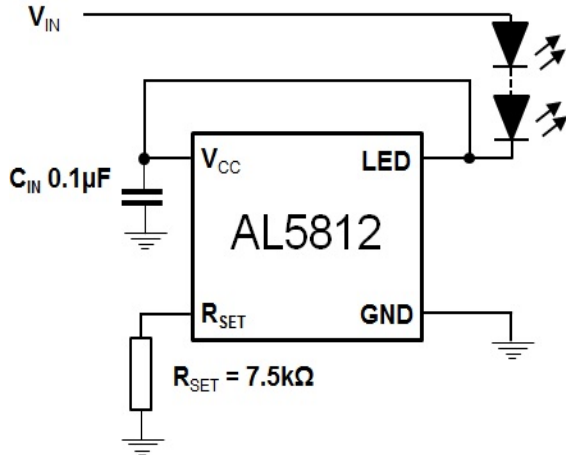
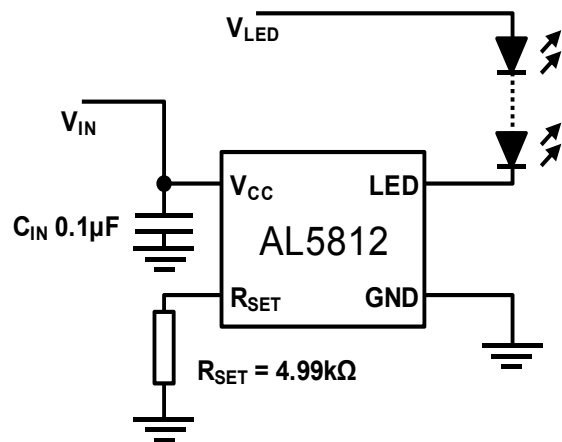
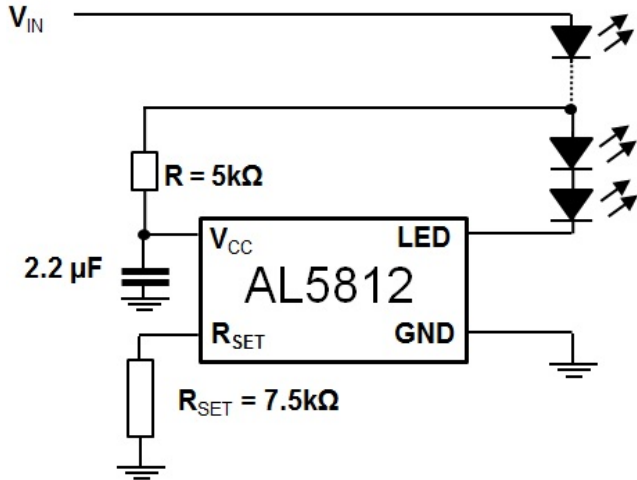
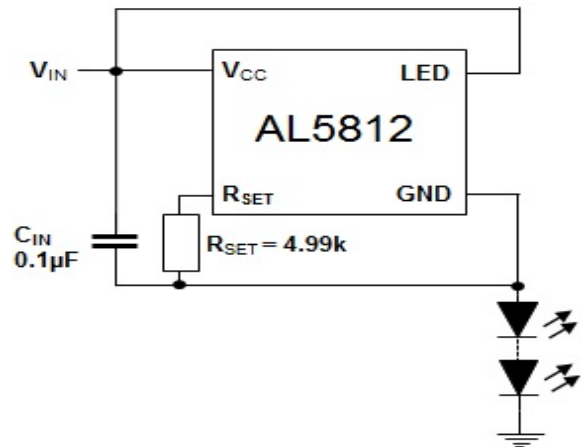

Figure 13 Low Side Current LED Setting
Figure 14 Low Side Drive – Separate Supplies
Figure 15 Low Side LED String Tapping
Figure 16 High Side Current LED String
- 13. The AL5812 has its V_{CC} pin connected to its LED pin, which are connected to the positive input supply voltage. R_{SET} is connected to AL5812 GND pin, which is connected to the anode of the LED chain. This creates a high side driver of the LED chain. See Figure 15.
The AL5812 is a Linear LED driver and in normal operation has the LEDs connected to the same potential as its V_{CC} pin and regulates the LED current by sinking current into to its LED pin see Figure 13.
The AL5812 with its 60V capability on its supply pin, V_{CC} , and its LED drive pin allows it to operate from supply rails up to 60V and/or directly drive LED chains up to 60V as shown in Figures 13 and 14. The voltage applied to the V_{CC} pin can be greater or lower than the voltage applied to the LED string. Figure 14 shows where you might control it from a 5-V rail but power the rails from a 12V rail.
An extension of Figure 14 is to derive the power for the AL5812 from the LED chain itself see Figure 15. LED chains greater than 60V can be driven in this manner as long as PWM dimming is not utilized.
Figure 15 shows the use of RC delay to match the power time delay between Vcc and LED pin. The AL5812 can also be used on the high side of the LEDs, see Figure 16. This is a simple way of extending the maximum LED chain voltage, however, it does increase the minimum system input voltage to: